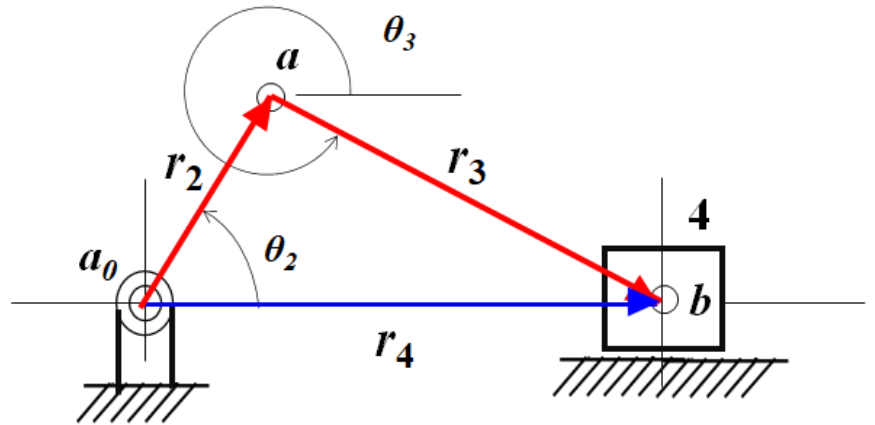

Fig. 2 Slider-crank mechanism
2. Consider the slider-crank mechanism shown in Fig. 2, derive the equations for the displacement (r_4), velocity(v_4), and acceleration(a_4) of the slider. (ω_2 is constant)
2. Determine the mobility (number of degrees of freedom) of the following mechanical devices shown in Fig.2. (15%)